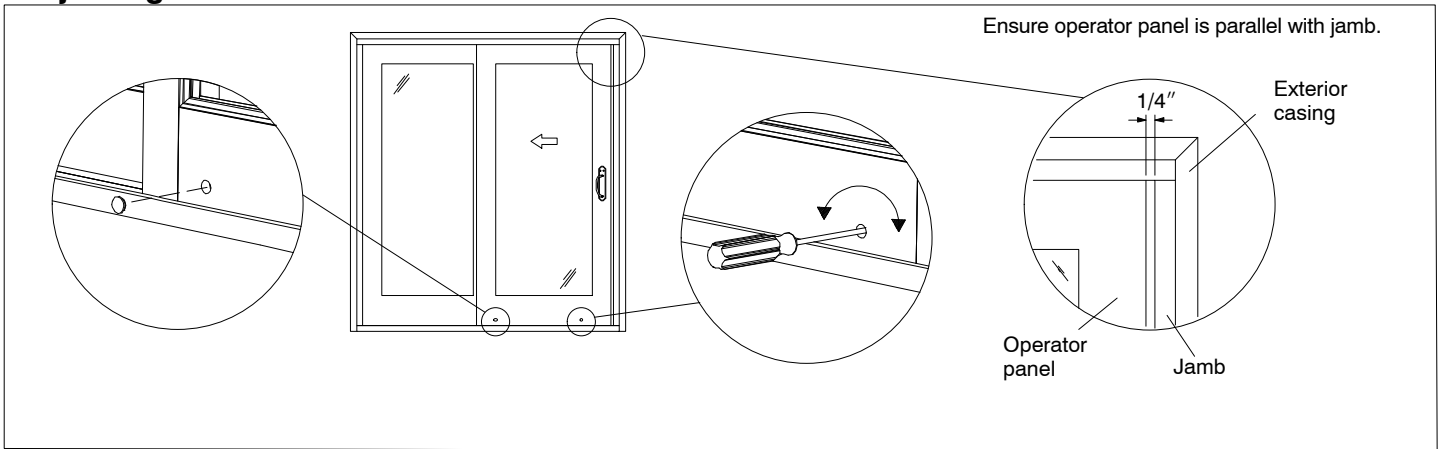

Figure 2: Adjusting the panel.
1. Rotate both adjustment screws counter clockwise until operator panel is in the lowest position. Then adjust screws clockwise until door slides easily. See figure 2.
2. Open door 1/4" (6) from the jamb and adjust door so it is parallel to the jamb. When the door is adjusted parallel to operator jamb, insert wood plugs at bottom of door. See figure 2.